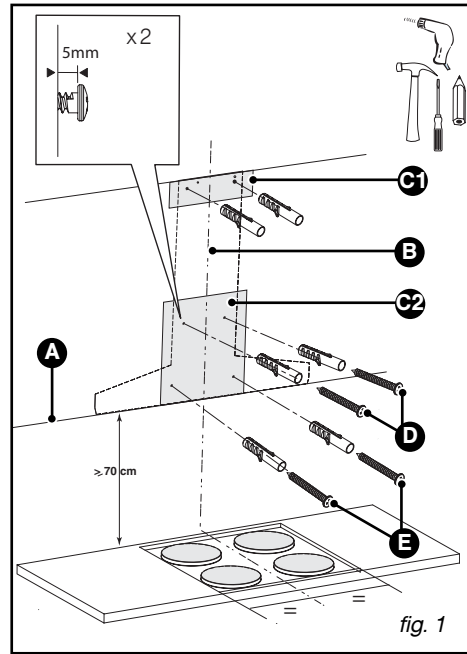

fig. 1
– Screw in the top two screws for the hood (D/fig. 1), leaving 5 mm sticking out from the wall.